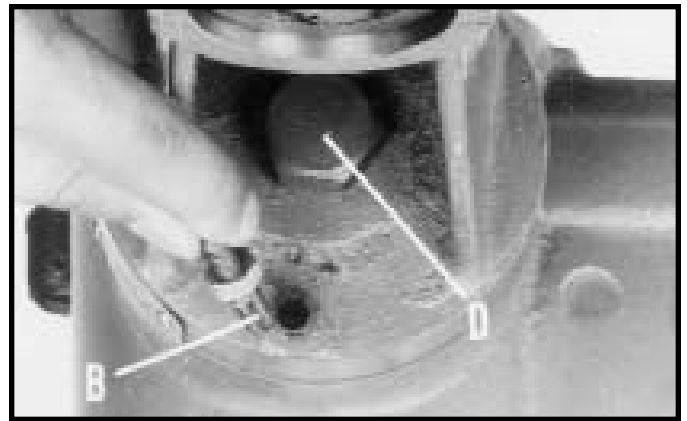

Fig. 21
4. Fig. 21, illustrates the table alignment pin (B) removed. Loosen table locking bolt (D) Fig. 21, tilt table to the desired angle and tighten bolt (D). When returning table to the level position, replace table alignment pin (B). This will automatically position the table surface at 90 degrees to the spindle.